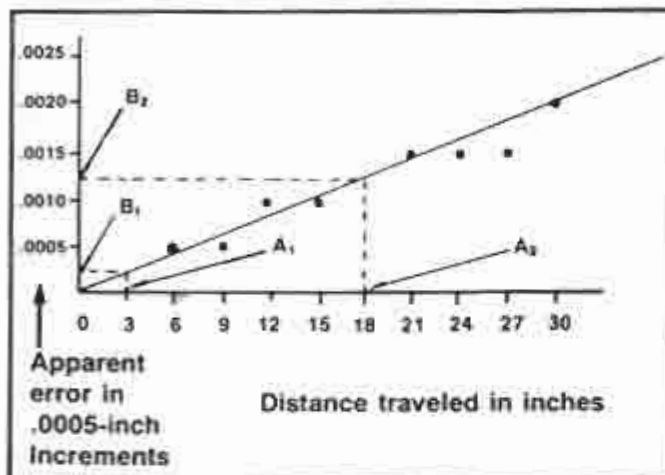

Figure 21a. Error Graph (Example 1).
- 1) On the error plot, draw a vertical line "A1" at one of the first distance measurements (Figure 21a).